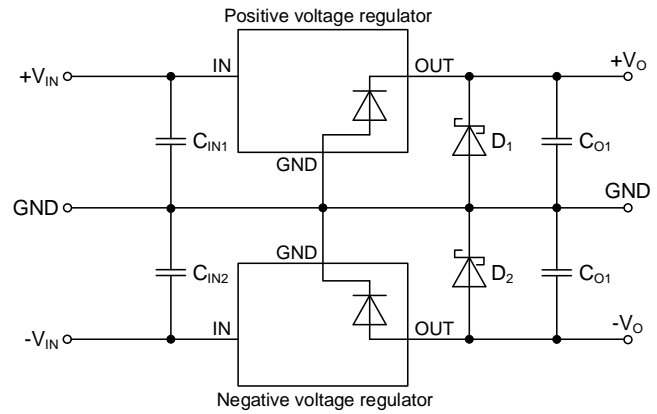

Figure 18. Diode for protecting the output terminal
2. Connect a Schottky diode with a low V_F between the output and GND to decrease the value of the reverse voltage and reduce the failure of the output voltage to rise (Figure 18). It is necessary to select a product in which the current value that can be supplied from the IC during startup is larger than the value of the reverse current. However, there is no 100% guarantee of the normal rising due to variation and the like.
3. Use linear regulators whose over current protection circuit has the drooping type characteristic. In addition, the elements may be degraded or destroyed if a current flows in the electrostatic breakdown protection diode or the parasitic diode between the IC output pin and the ground. To prevent this, connect a Schottky barrier diode in parallel to the output pin (Figure 18).